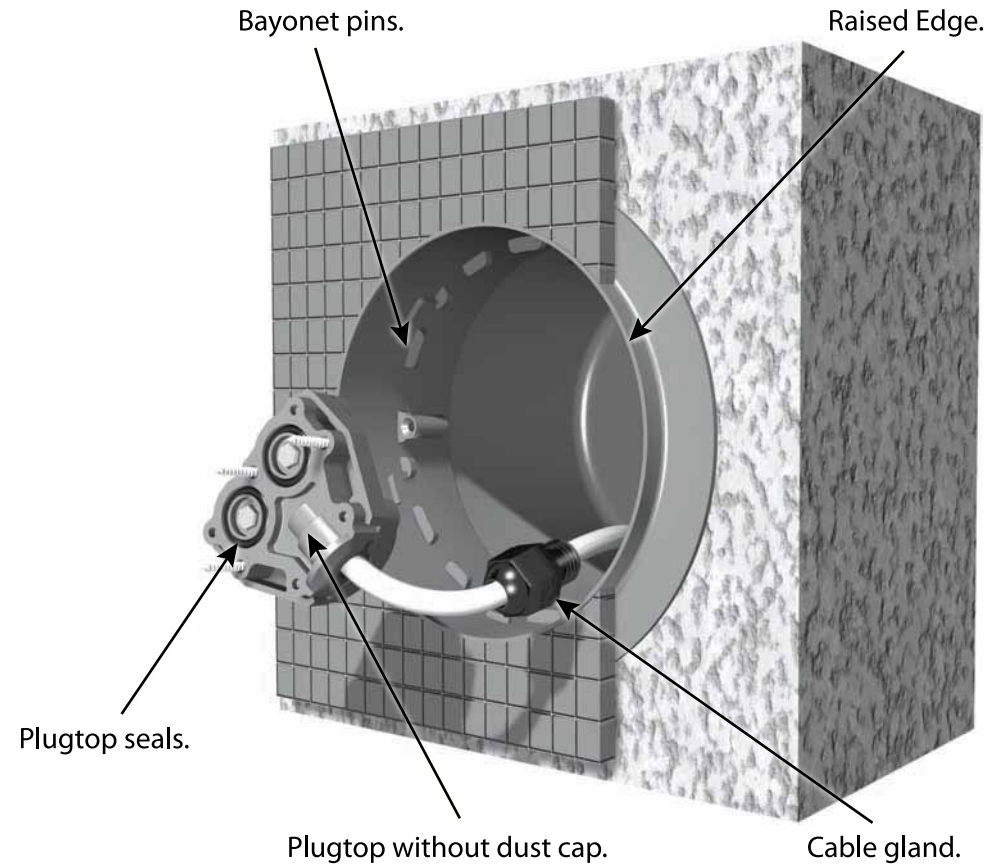

Fig.5
**CAUTION:** Do not install the light until after the pool has been acid washed. (Fig.5)
Attach a second conduit to return below ground level and to the location of the transformer. Conduit should contain a draw wire and be covered with a draw box. ( Part No. SE5 ) or similar, to allow access. ( Fig.5 )